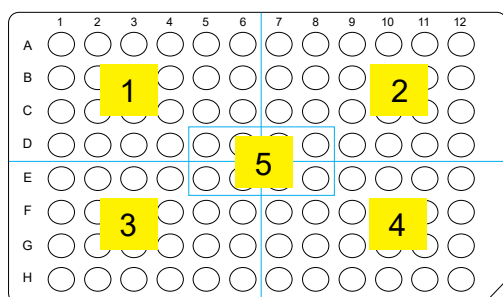

Figure 4 The 5 plate sectors.
- Vortex deep-well plates for 5 seconds in each of the 5 sectors. See the sectors in Figure 4.